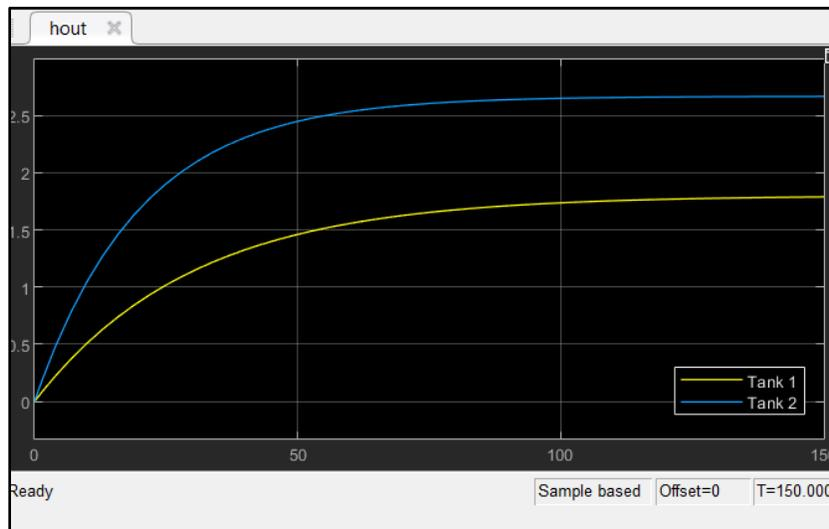

Figure 12. Simulation output for the two tank system.
2. Run the simulation. You should get the response shown in Figure 12. Note: in the scope window, you can select the [View]→[Legend] window to identify which plot refers to which tank.